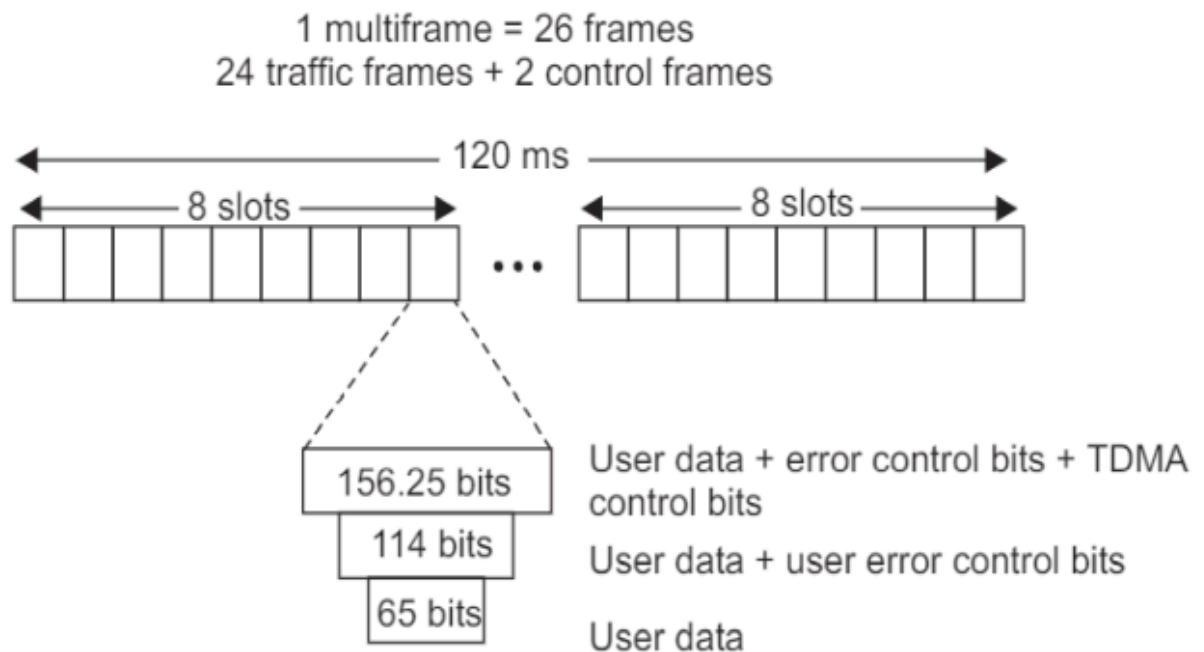

Fig 5.10 Multi frame Components
- Each voice channel is digitized and compressed to a 13Kbps digital signal. Each slot carries 156.25 bits, 8 slots are multiplexed together creating a FDM frame, 26 frames are combined to form a multi frame, as shown in Fig 5.10.